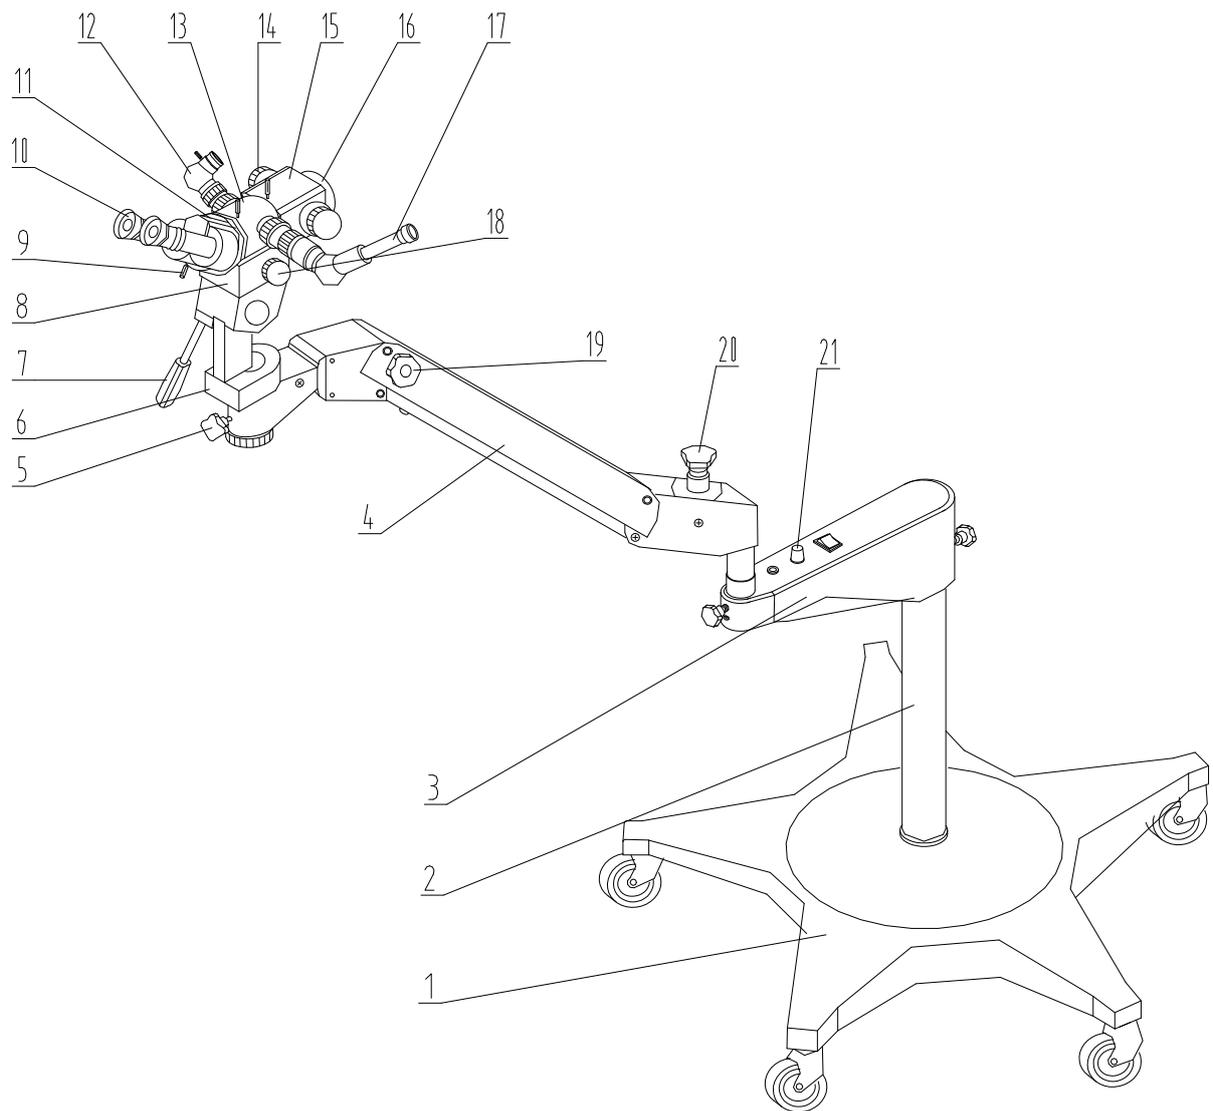

Fig 1 Name of the main parts
2. The Name and function of the main parts (Fig.1)